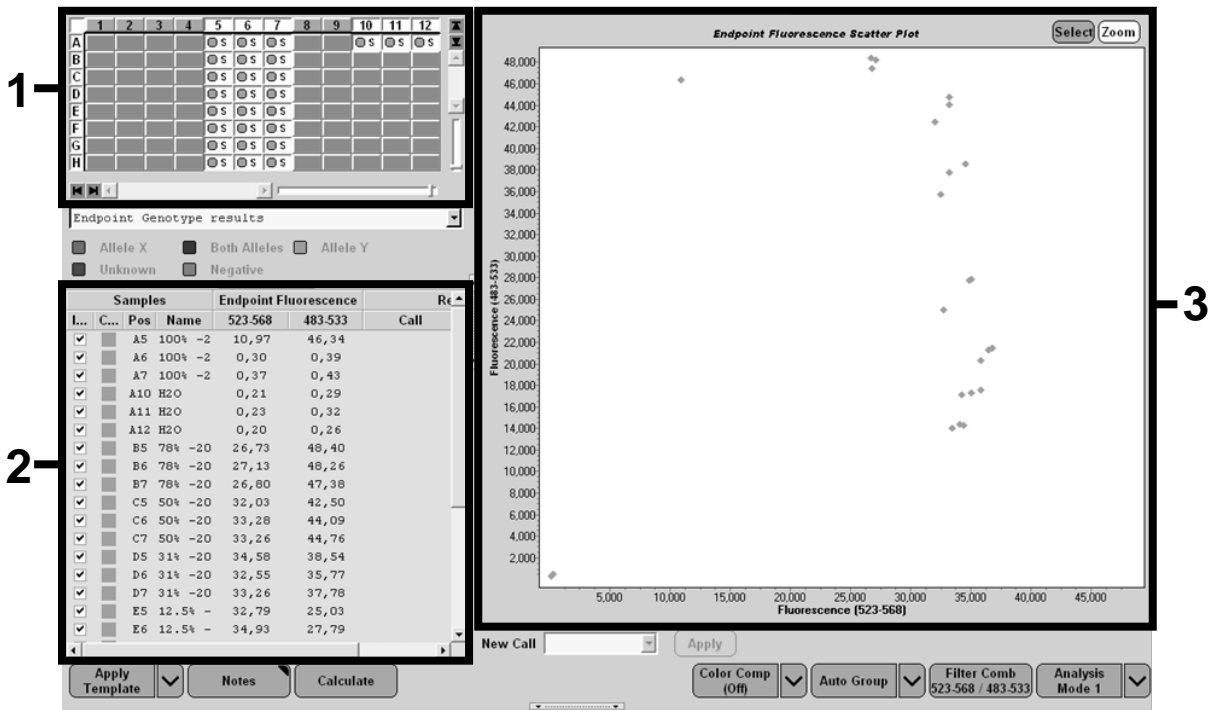

Figure 25. Data summary.
16. The next window (Figure 25) shows plate setup (1, upper left), fluorescence results for each sample (2, bottom left), and the scatter plot with allelic discrimination (3, right; FAM and VIC fluorescence measured at the 50th PCR cycle).